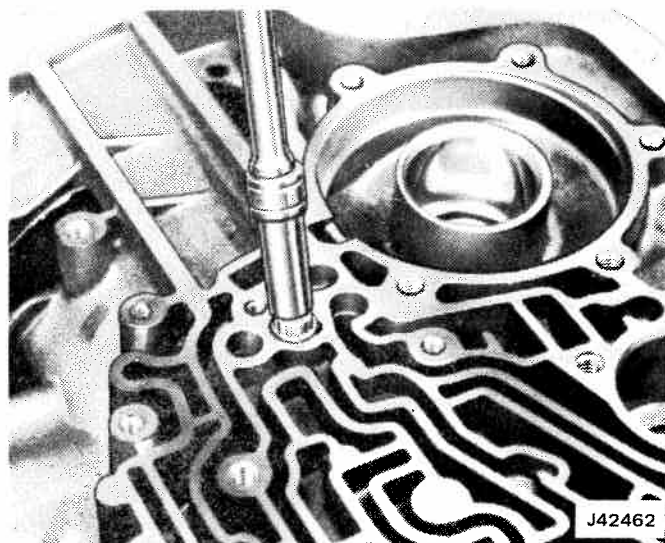

Fig. 7-32 Removing Center Support Bolt
(1) Remove bolt which secures center support to case, using a $\frac{3}{8}$ inch 12-point thin wall deep socket (fig. 7-32).